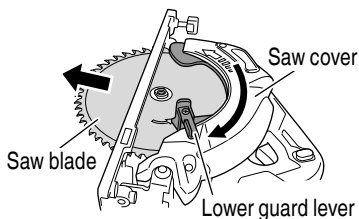

Fig. 10
- (2) Depress the lock lever, lock the spindle, and remove the Hexagonal flange bolt and washer (B) with the hex. bar wrench 5 mm.
- (3) While holding the lower guard lever to keep the lower guard fully retracted into the saw cover, remove the saw blade (Fig. 10).